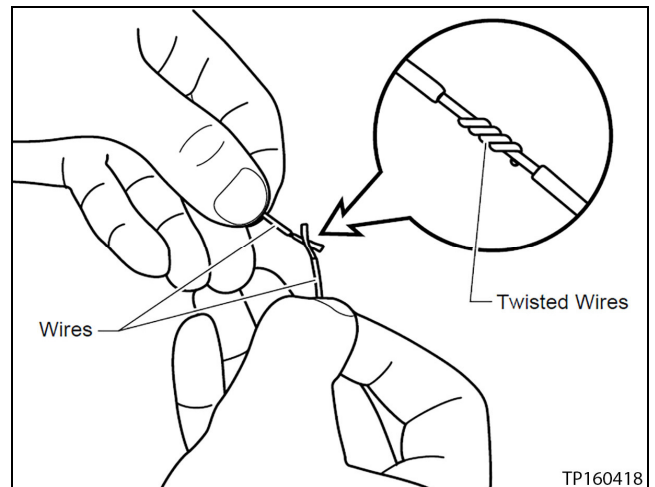

Figure 56
49. Twist together the two black wires and then the two white wires (see Figures 56 and 57).